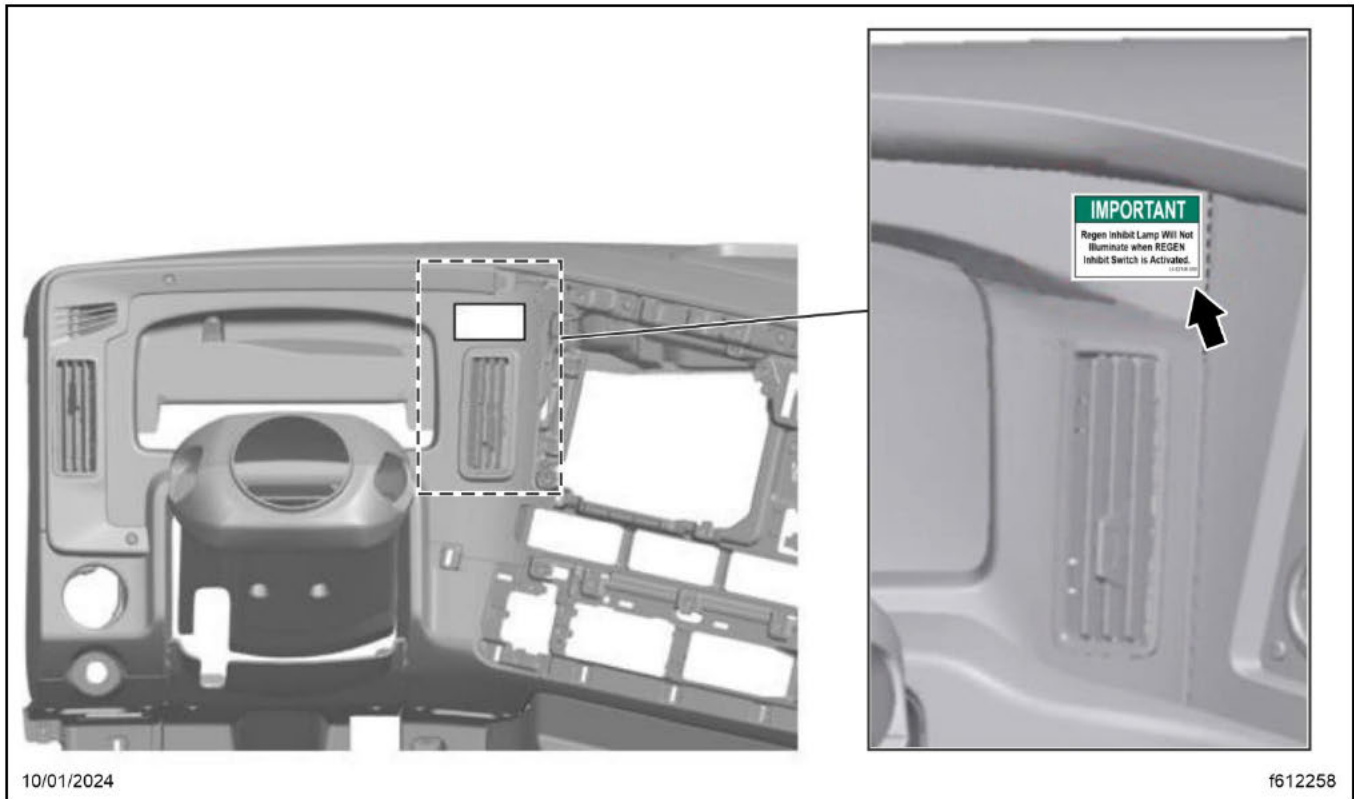

Fig. 12, Regen Inhibit Dash Warning Label
17. Locate and remove the label, shown in Fig. 12, from the dash.